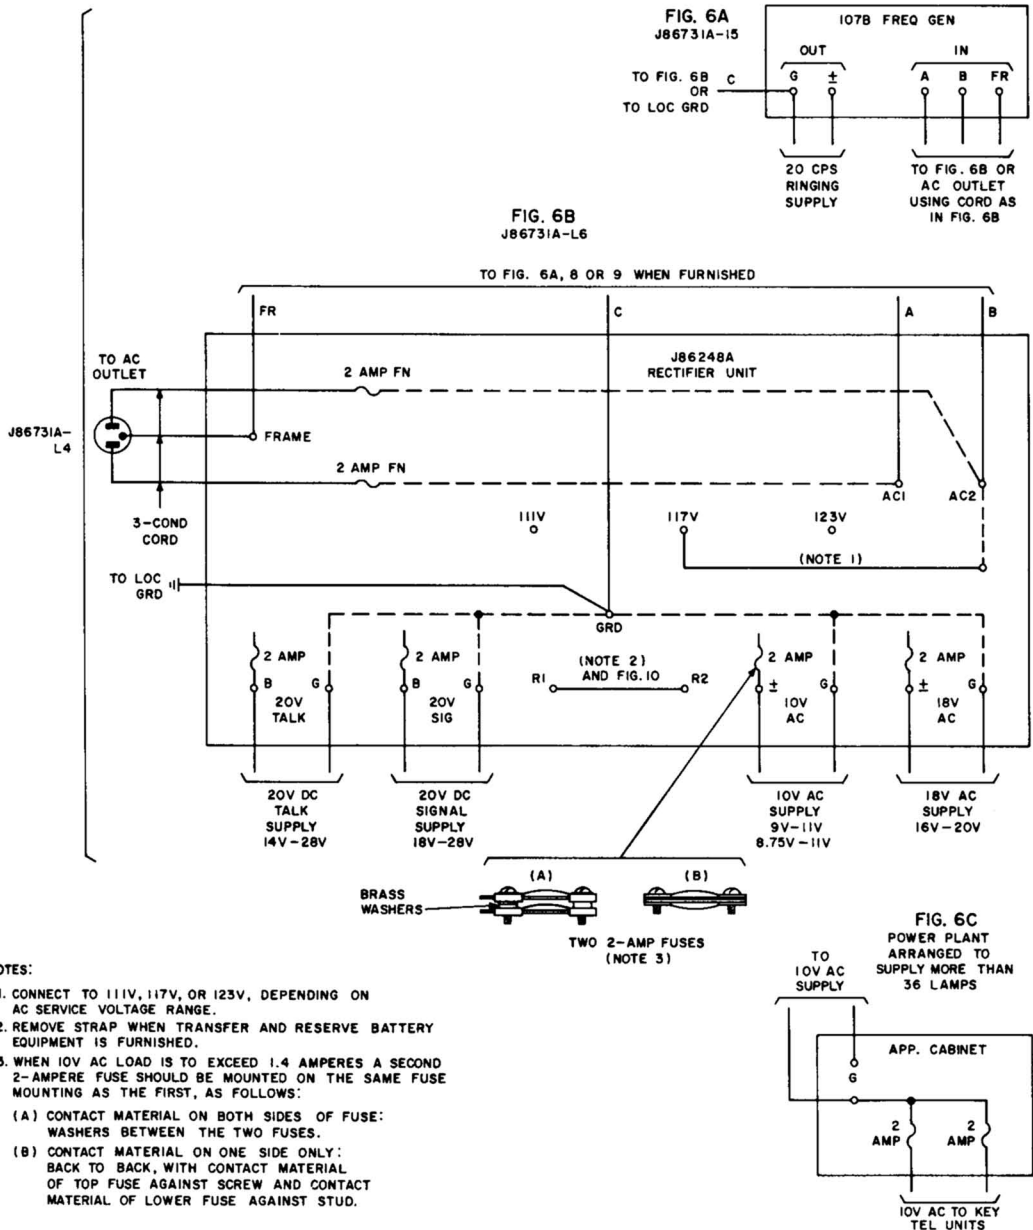
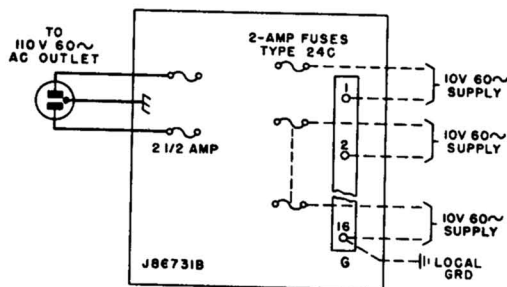
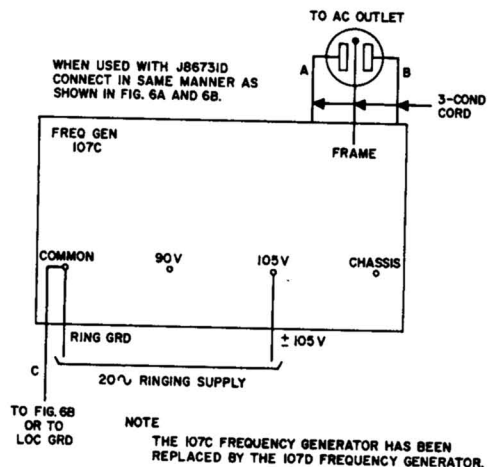

Fig. 6 — 101G (J86731A and D) Power Plants
Fig. 7 - 101G (J86731B) Power Plant
Fig. 8 - 101G (J86731C) Power Plant (107C Frequency Generator)
4.01 Power plant connections are shown in Fig. 6, 7, 8, and 9.
*See Note 3, Fig. 6. **See Note, Fig. 8. ***Total DC load not to exceed 1.5 amps.
- Delete Fig. 6 and renumber Fig. 7